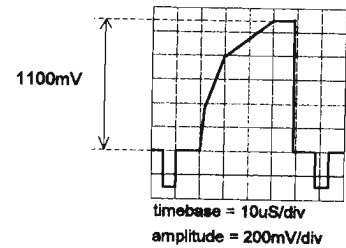

Figure 6
b) Measure VIBS and adjust the top of the video to 1100 mV_{top} with WK5:P1 (see Figure 6).